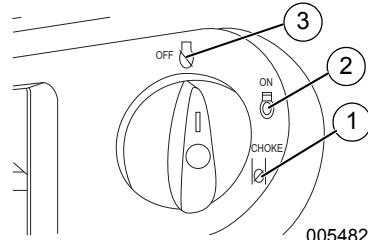

Figure 3-2.Off/On/Choke Positions
1. See **Figure 3-2**. Rotate the Off/On/Choke switch to CHOKE (1).
4. See **Figure 3-2**. When engine starts, rotate Off/On/Choke dial to ON (2). Choke operation is reduced as Off/On/Choke dial is rotated towards ON.
3. See **Figure 3-2**. Rotate the Off/On/Choke switch to CHOKE (1).
6. See **Figure 3-2**. When engine starts, rotate Off/On/Choke dial to ON (2). Choke operation is reduced as Off/On/Choke dial is rotated towards ON.
3. See **Figure 3-2** Rotate Off/On/Choke dial to OFF (3).
1. See **Figure 3-2**. Turn Off/On/Choke dial from STOP to ON. This will open the fuel valve and permit starting.